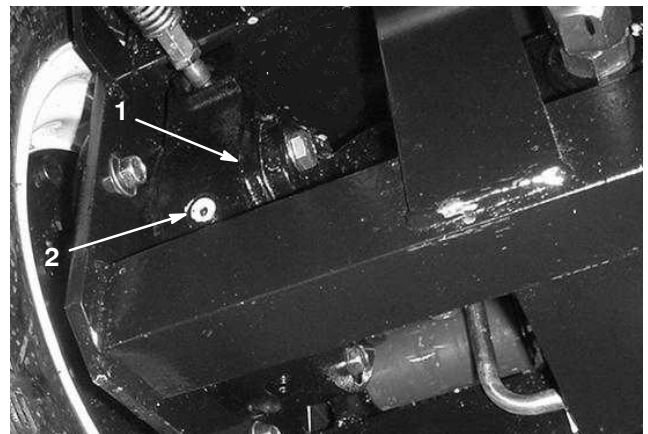

Figure 7
2. Remove the plug on the planetary (Fig. 6) and check plug on the back side of the brake (Fig. 7). Oil should be at the bottom of the check plug hole on the back side of the brake.